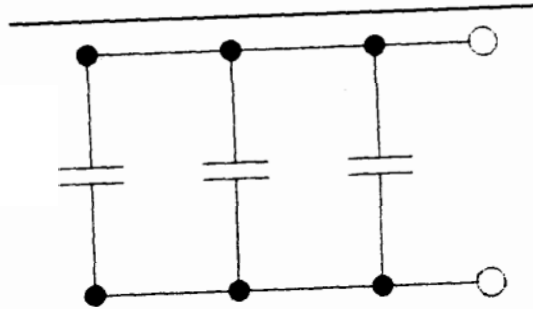

FIGURE 8-9: Capacitors connected in parallel.
**CONNECTIONS & CALCULATIONS.** If space is a problem, you may put several capacitors in parallel where their total capacitance is the sum of the group, and the voltage rating is unchanged. This assumes that all the capacitors have the same voltage rating (Fig. 8-9).